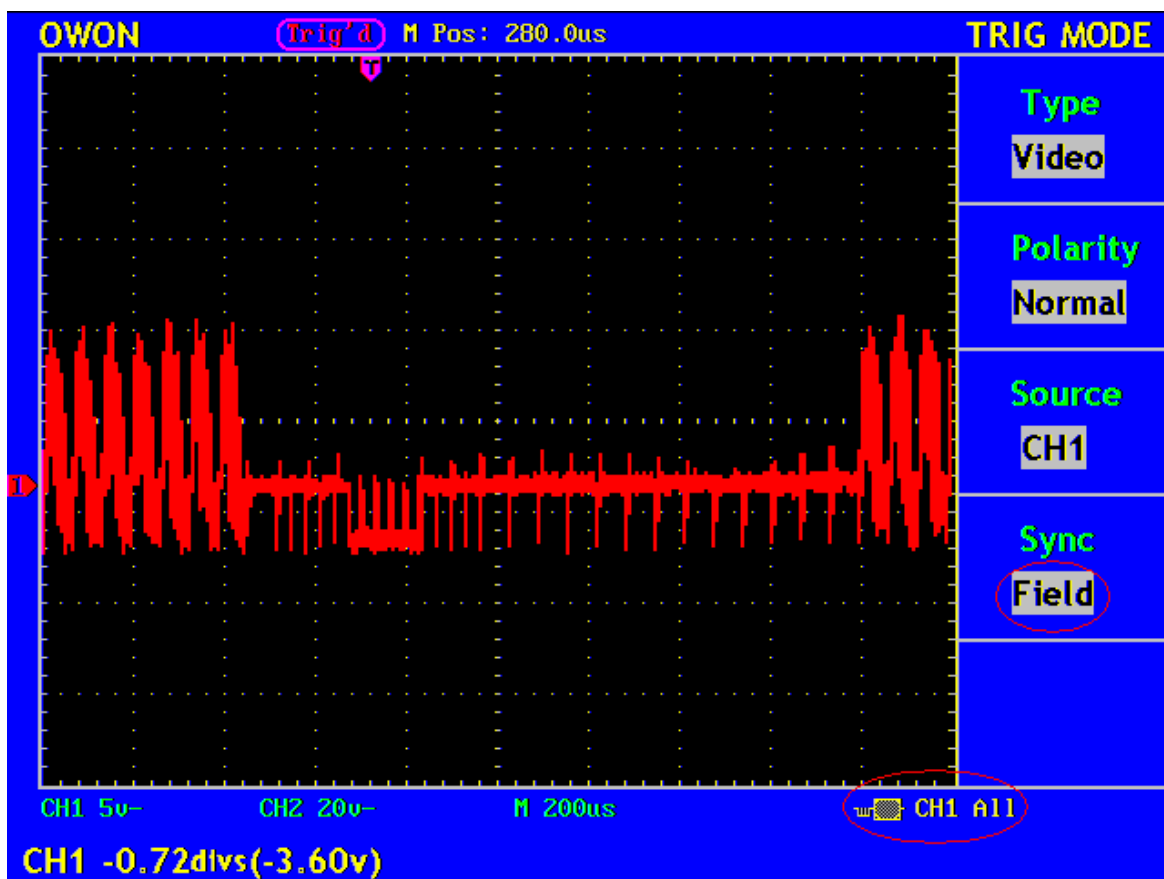

Fig. 59 Wave Form Obtained from Video Field Trigger
6. Adjust the **VOLTS/DIV**, **VERTICAL POSITION** and **SEC/DIV** knobs to obtain a proper wave form display (see Fig. 59).